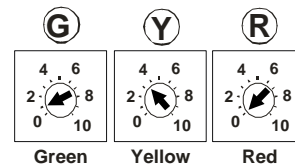

FIGURE 8
14. Remove the door from the Fi2000 module to expose the LED's. **NOTE:** The Fi2000 base pot settings come preset from the factory for the Roadstar, shown in Figure 8. Verify the wire connections by, (1), turning the ignition on while watching the 3 LED's. They will all light up for a few seconds, and then go off. This is correct. If there are no lights visible, make sure the side stand is up, bike is in neutral, clutch is in and handlebar engine switch is set to run. If there are still no lights visible, re-check that all connectors are fully engaged and the ground wire is connected correctly. (2), after achieving a steady light from all three LED's, start the motorcycle; the green light should now be the only LED on. If all three LED's are still on after start up, verify the injector connectors are correctly attached. Reattach the access door. **NOTE:** Make sure the ignition is turned off before changing any connections.
Your Cobra® Fi2000 fuel injection module has been tested and preset for best function and rideability on a motorcycle with aftermarket aircleaner and Cobra exhaust. The Fi2000 does however, have 3 important adjustments that allow you to tune the module for optimum performance, especially if you have performed other changes to your motorcycle. These adjustments also allow you to resolve drivability issues if our stock settings are not exactly right for your bike. Make sure your motorcycle is up to normal operating temperature (15 minutes of riding should be sufficient) before making any adjustments. Remove the door to expose the pots shown in Figure 8.